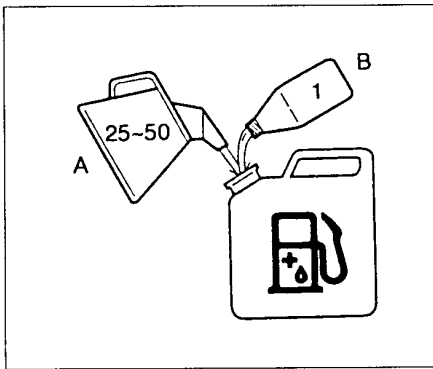

Fig. 2-1
Fuel (Fig. 2-1)
CHAIN OIL (Fig. 2-1 B)
Turn the adjusting screw (1) counterclockwise to decrease the quantity and turn it clockwise to increase the quantity. (Fig. 2-1 C)